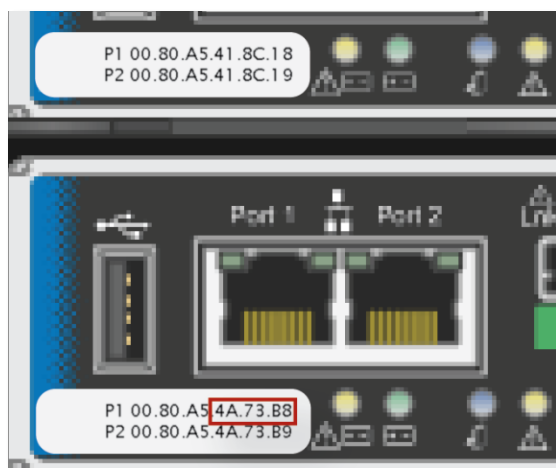

Figure 20: Six Digits That Match the WWN of the Array
- 5.3.5. `Unnamed` is the default name of an unconfigured storage array, and its default state is `Needs Attention`. The `WWN` is a 32-digit hexadecimal identifier for the storage array that contains the digits from one of the stickers on the back of the array, as shown in Figure 20.